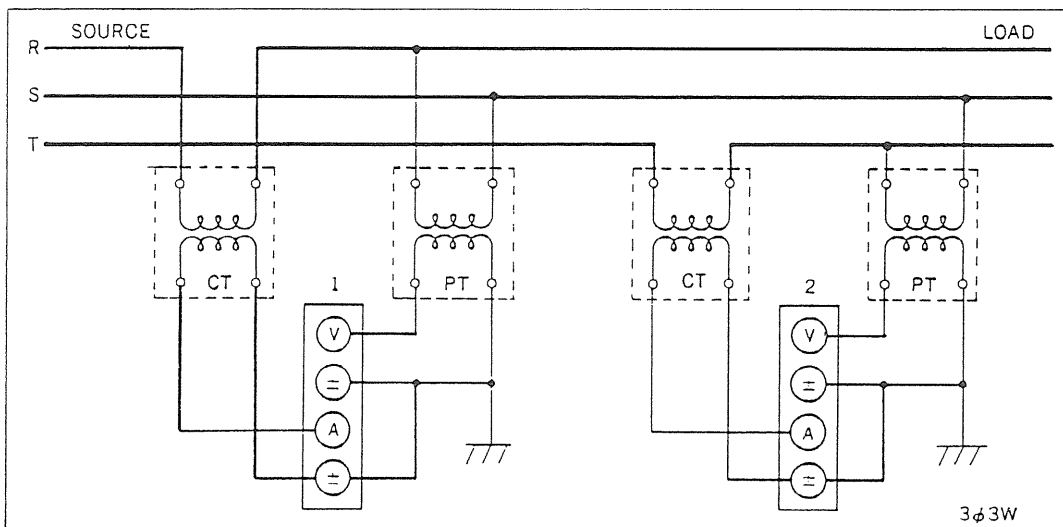

Fig. 6-4
- 2) Using external voltage transformer (PT) and current transformer (CT) connected as shown in Fig. 6-4.